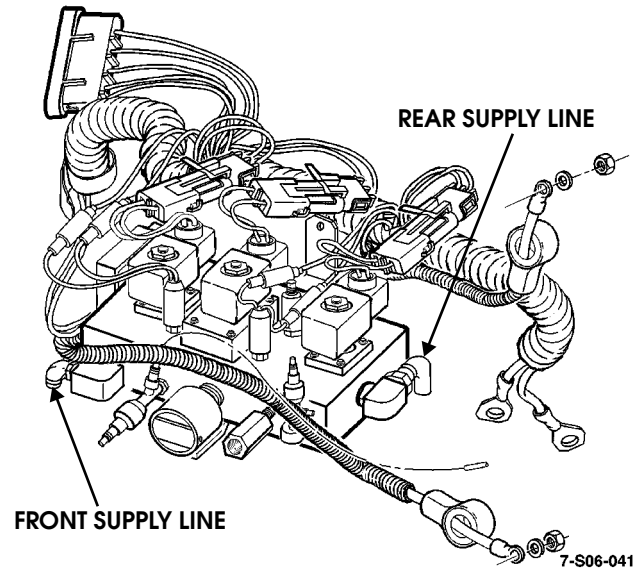

Figure 6-71: Front and Rear Supply Line Connections
1. Disconnect supply line at pump/valve assembly (Figure 6-71).